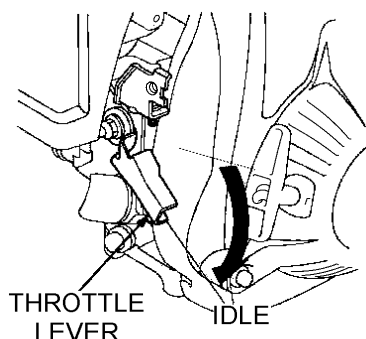

Figure 9. Throttle Lever (Idle)
2. Move the throttle lever (See Figure 9) to the idle position.